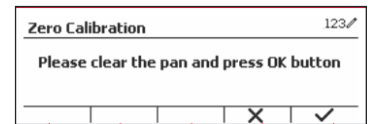

Figure 5
3. Clear the pan and then press the softkey corresponding to the ✓ icon. (See Figure 5)